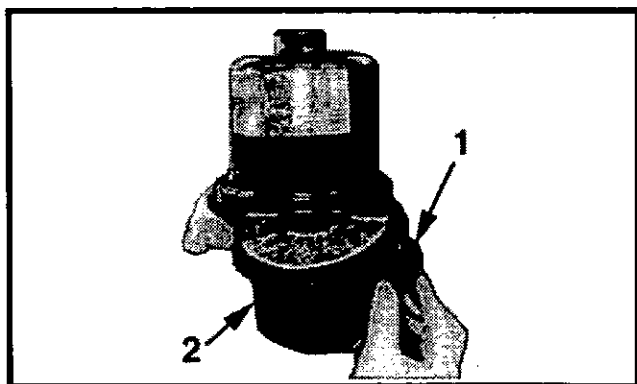

Figure 5-5 Remove Oil Bath and Filter Element
1. Loosen the spring clips (1, Figure 5-5) and remove the oil bath complete with the filter element (2, Figure 5-5). Avoid spilling oil from the oil bath.